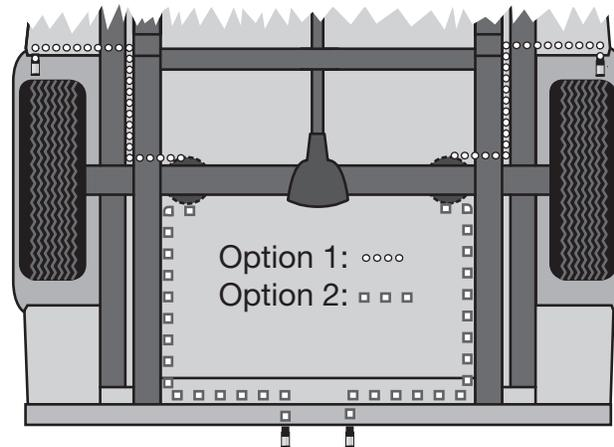

fig. 3
- Route the air line from the air spring to the predetermined Schrader valve location. Ensure that the air line is protected from the direct heat from the exhaust system and also keep it away from sharp edges. Caution should be taken not to kink or bend the air line. Secure along the frame with the supplied zip ties (Fig. 3).